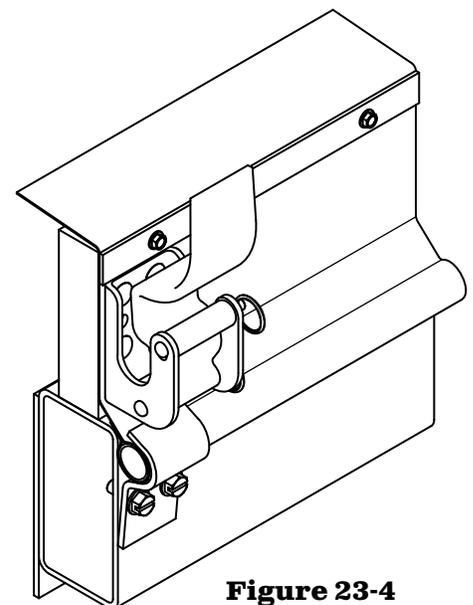

Figure 23-4
1) **Figure 23-4.** OPTIONAL Attach tarp and anchor pipe to top rail with clamps #14 screws.
4) **Figure 23-4.** Attach aluminum flat at top of sideboard for the full length of the tarp.